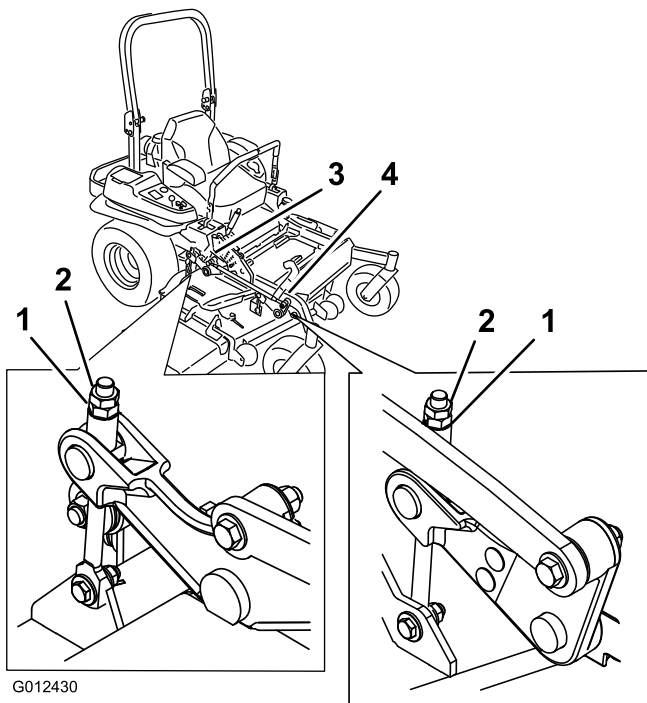

Figure 89
10. Fine-tune the adjustment nut on the front deck lift assembly by turning it (Figure 89).
16. Fine-tune the adjustment nut on the front deck lift assembly by turning it (Figure 89).